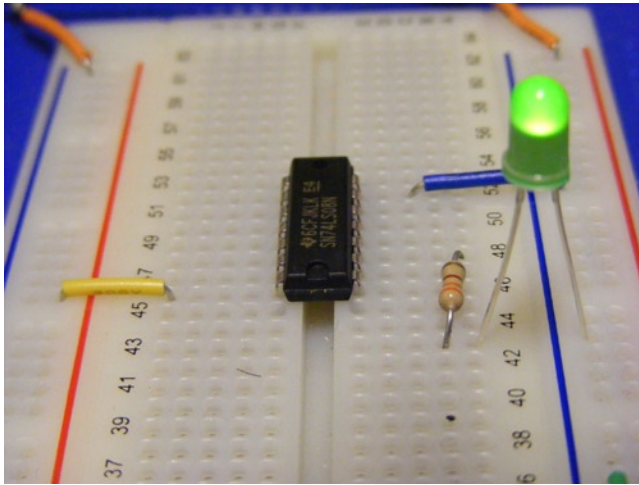

Figure B-10. LED lit up by AND gate output – even though no inputs are connected!
3. One side of the resistor connects to pin 3, which is the output of the first gate of the chip. The other side of the resistor connects to the longer pin of the LED (which is the positive, or anode). The shorter LED pin (the negative, or cathode) connects to the breadboard's ground plane. See Figure B-10 for these connections.
At this stage, the inputs to the gate were not connected to anything, yet, when I powered up the circuit, the LED lit up (see Figure B-10)!